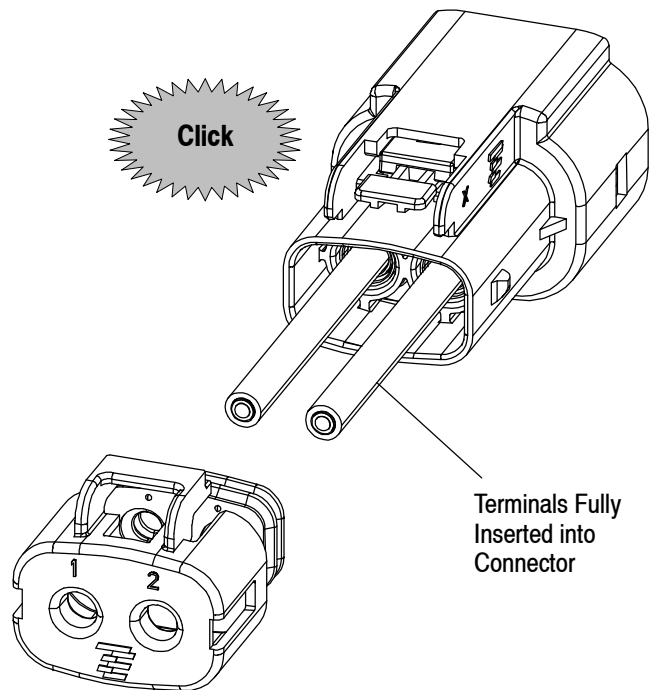

Figure 13
2. Insert the terminals into their respective cavities until they are fully locked, and an audible and tactile “click” is detected. See Figure 13.